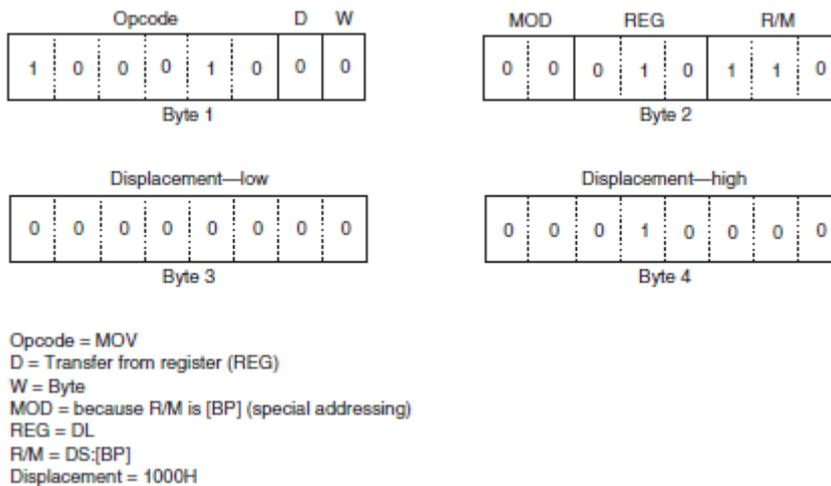

Figure 4-6: The MOV [1000H], DL instruction uses the special addressing mode
- MOV [1000H],DL ;this instruction moves contents of DL into memory-location 1000H(Figure 4-6).